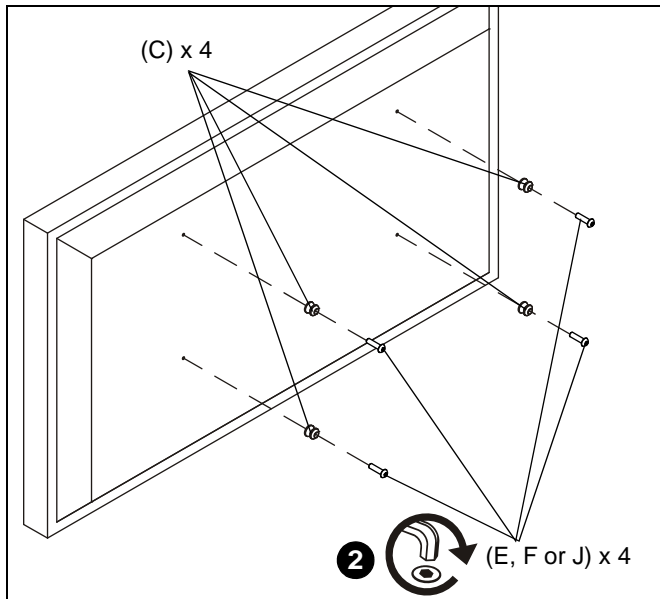

Figure 4
2. Install four mounting buttons (C) onto display using four button head screws (E, F or J). (See Figure 4)